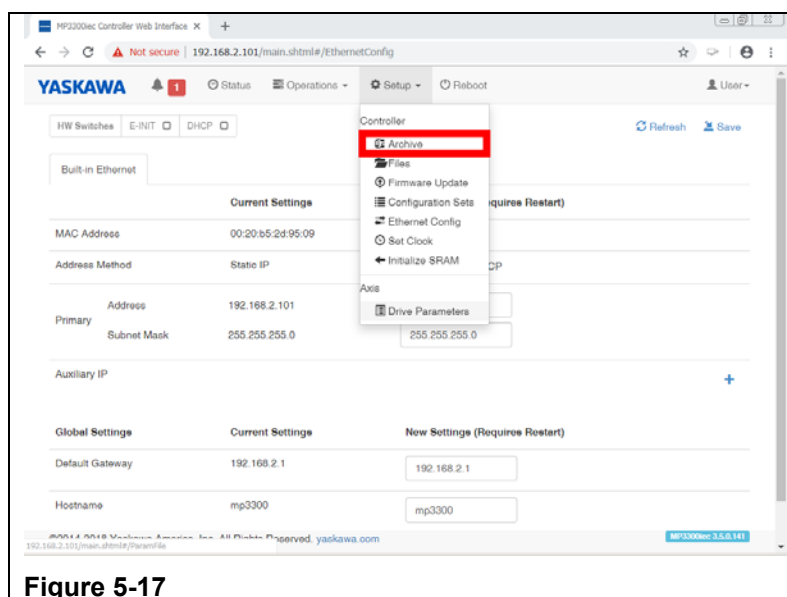

Figure 5-17
- i. Go to the ‘Setup’ pulldown menu of the Yaskawa website page and select “Archive”. (Refer to Figure 5-17)